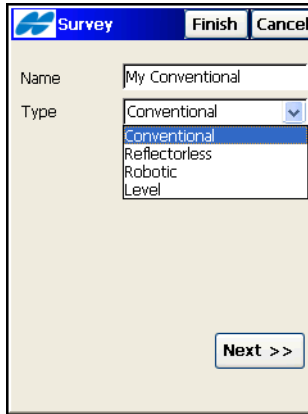

Figure 4-68. Survey
2. On the **Survey** screen, enter a name for the Configuration and select its type, then tap **Next** (Figure 4-68 on page 4-53).